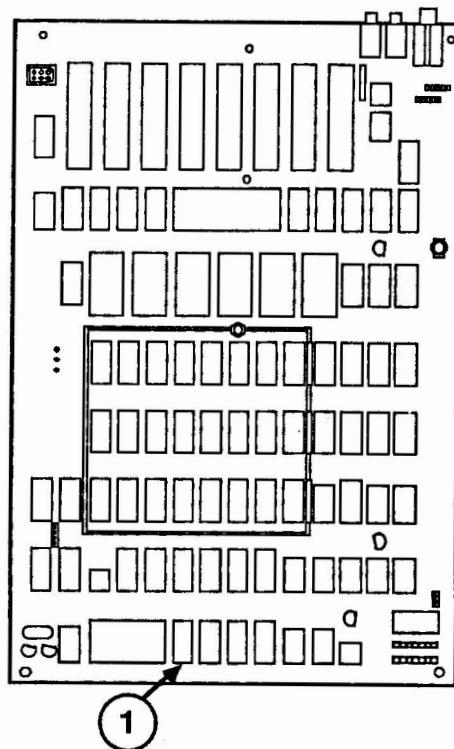

FIGURE 2
8. **Gently** lift the front of the housing slightly off the base pan and unplug the keyboard connector (Figure 2, #1) from the front of the motherboard.